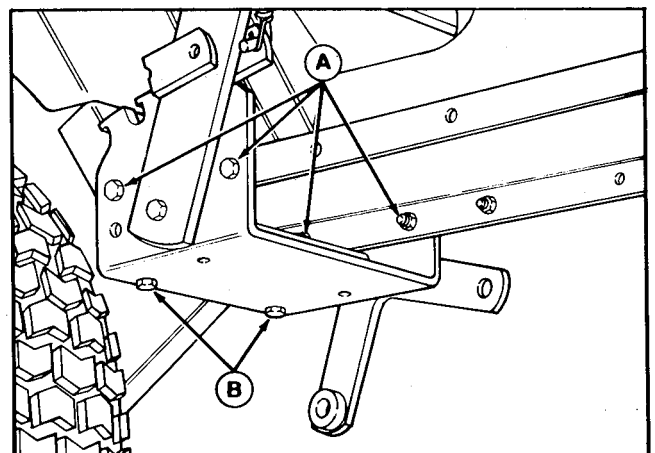

Figure 2. Install Lift Lever Assembly
2. Install the lift lever assembly to the footrest as shown in figure 2. Use four capscrows, lockwashers, and nuts supplied with kit. Install the hardware (A) with nuts to inside of foot rest.
4. Install two capscrews and lockwashers (B, figure 2) from bottom thru lever assembly, brace and speed nuts.